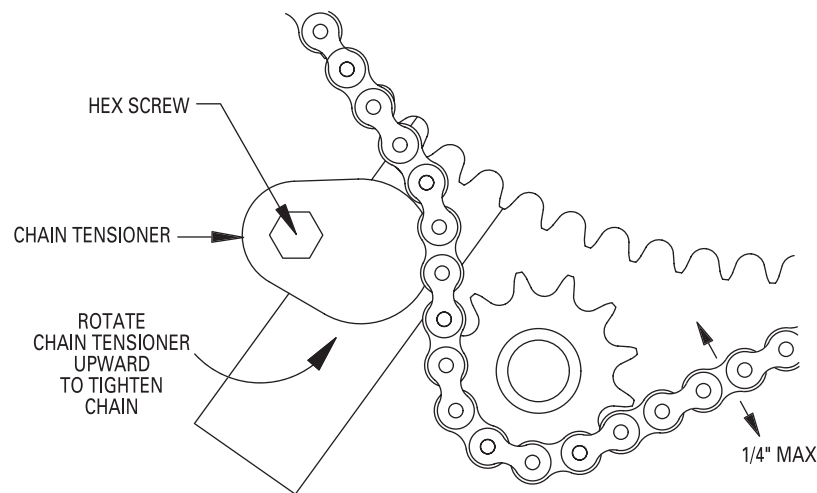

Figure 16
- To adjust, loosen hex bolt with 3/4 wrench and rotate chain tensioner toward chain as shown until chain moves no more than a total of 1/4". See Figure 16 below.